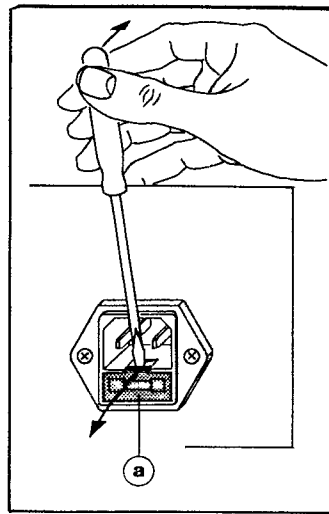

Fig. 7.1
- Take out insert **a** (with holder for primary fuse **b** and replacement fuse **c**) using a suitable screw-driver — refer to Fig. 7.1.
Changing of the primary fuse is described in Section 4.1 (Figs. 7.1 and 7.2).